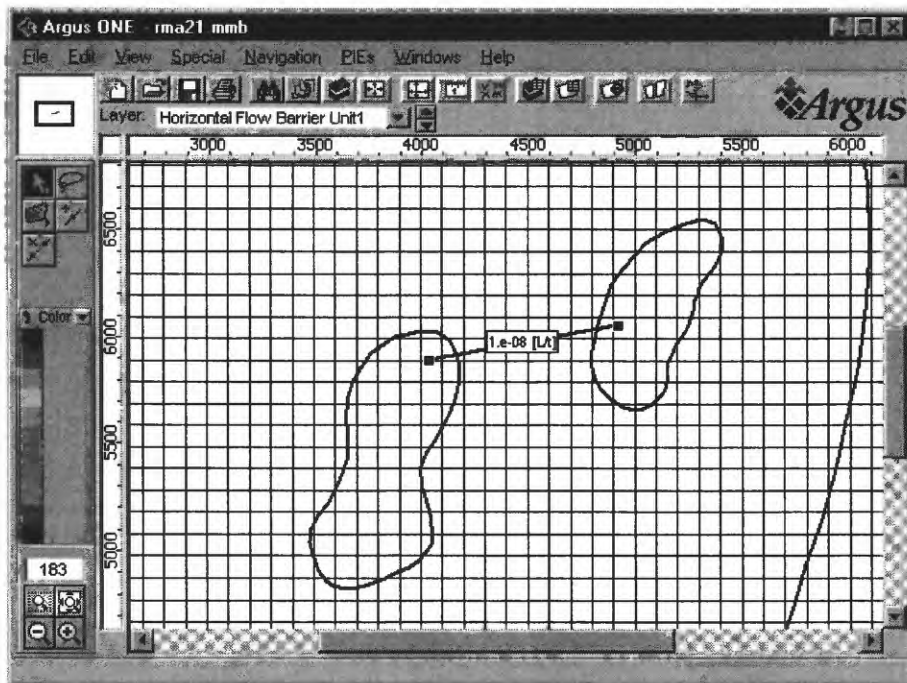
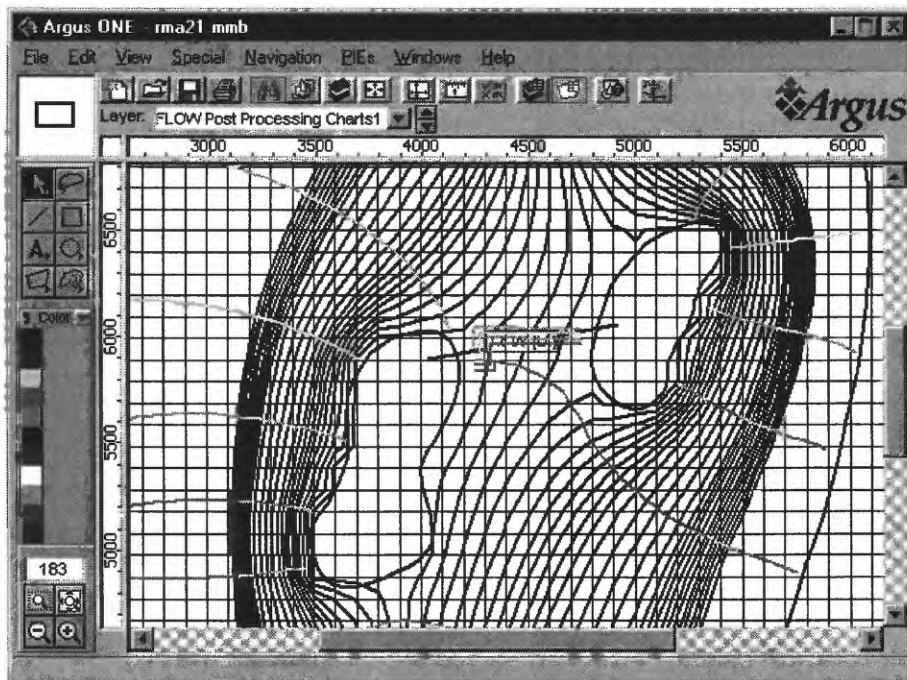

Figure 30. Slurry wall connecting the two, internal, bedrock outcrops.
Figure 31. Pathlines and head contours in the vicinity of the horizontal-flow barrier.
23. We will now modify the model to include a slurry wall extending between the two, internal, bedrock outcrops and see how the slurry wall affects the head distribution and particle tracks. Change to the **Horizontal Flow Barrier Unit1** layer and select the open contour tool. Draw an open contour between the two, internal, bedrock outcrops (figure 30). Accept the default values for the contours. To see exactly how the PIE translates the contours to flow barriers, select **PIEs|Display Horizontal Flow Barriers** and click on the **Display** button. Rerun MODFLOW and MODPATH as before and plot the results. The only difference in the procedure is that when plotting the results, prompt-message will appear to overwrite the existing data or to create new layers. For the heads, it will be necessary to create two new layers, one for the data and one for the post-processing charts. For MODPATH, it will only be necessary will to create one new layer. Examine the results in the vicinity of the flow barrier. There should be an abrupt change in head at the location of the barrier and more of the particles should go around the internal bedrock outcrops rather than between them (figure 31).